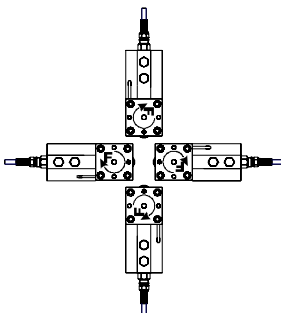

FIG. 10: LOAD POINT ASSEMBLIES ORIENTATION
- Step 12. Slide the load point assembly/base plate onto the anchor bolts. You can install the load point assemblies in one of four orientations. (See Fig. 10) Notice we used the Free Sliding Load Point Assembly for this